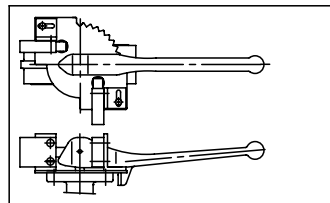

FIG. 2: LEVER + SWITCHES
- Limit switches for position monitoring (figure 2)